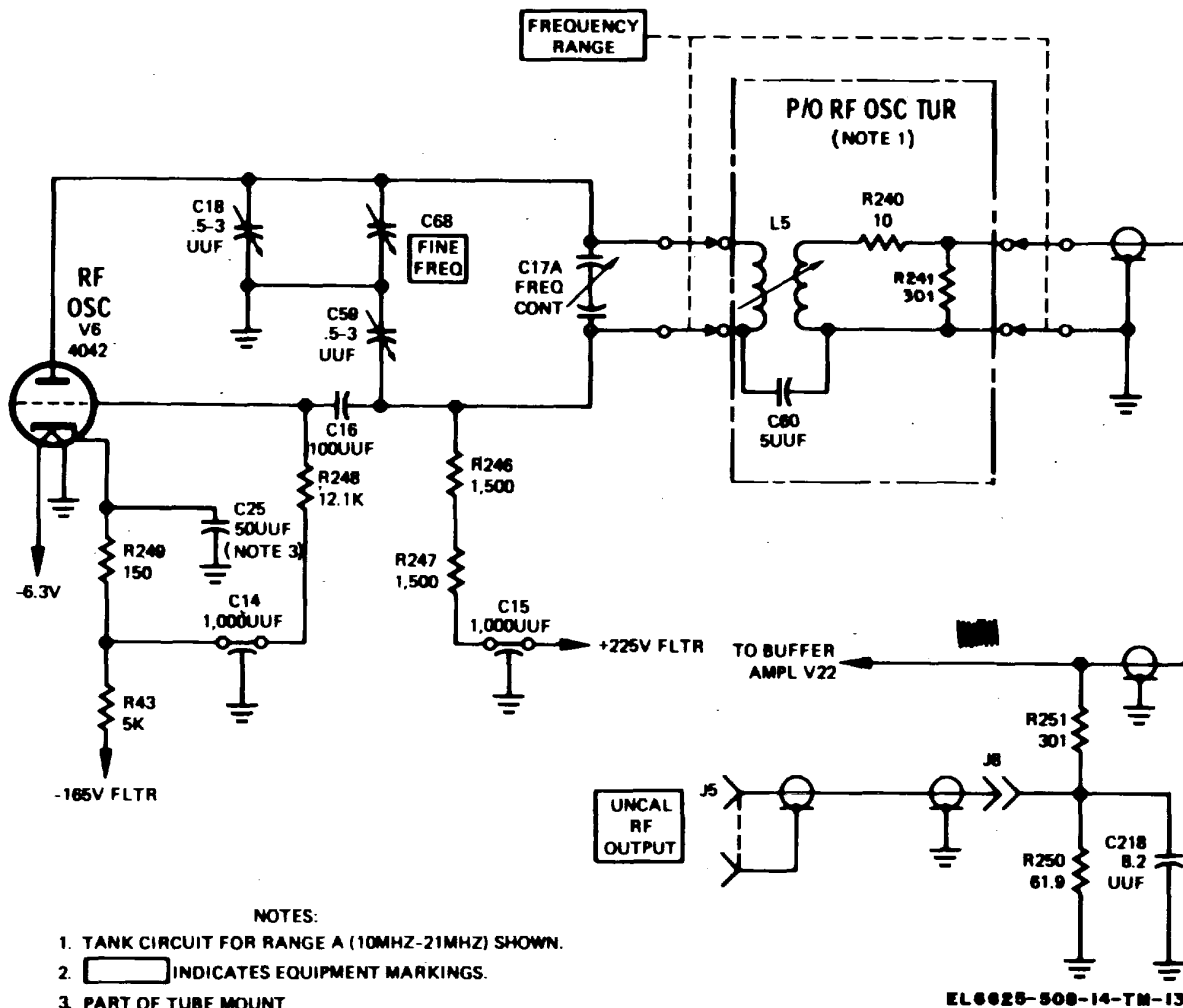

Figure 5-4. Rf oscillator circuit, schematic diagram.
a. The rf oscillator (fig. 5-4) is a Colpitts circuit composed of vacuum tube V6 and associated resistors
c. The plate circuit of V6 (fig. 5-4) is series fed through inductor L5, resistors R246 and R247; these, along with cathode resistor R43 and R249, provide plate current limiting. Capacitor C25 provides cathode bypass. Cathode bias is developed by R248 and R249,
available. When the MODULATION switch is set to INT400, the 400 cycle output of the modulation oscillator, shown in figure 5-4, is applied to the differential amplifier through the following components: